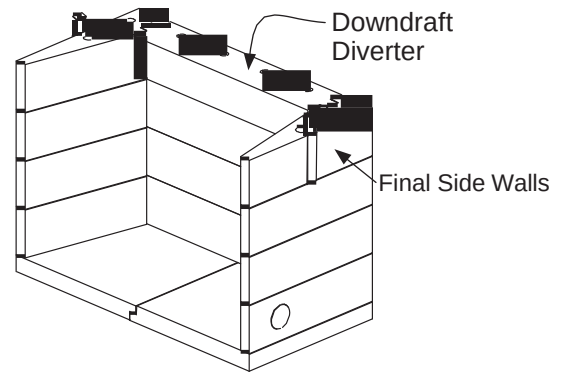

**Figure 43 - Attaching Downdraft Diverter and Side walls**
9) Install Downdraft Diverter and final row of Side Walls (Figure 43). All components must be level. Mix approximately 2 cu. ft. of Ready-Mix Concrete and fill all cells with Ready Mix Concrete mix.